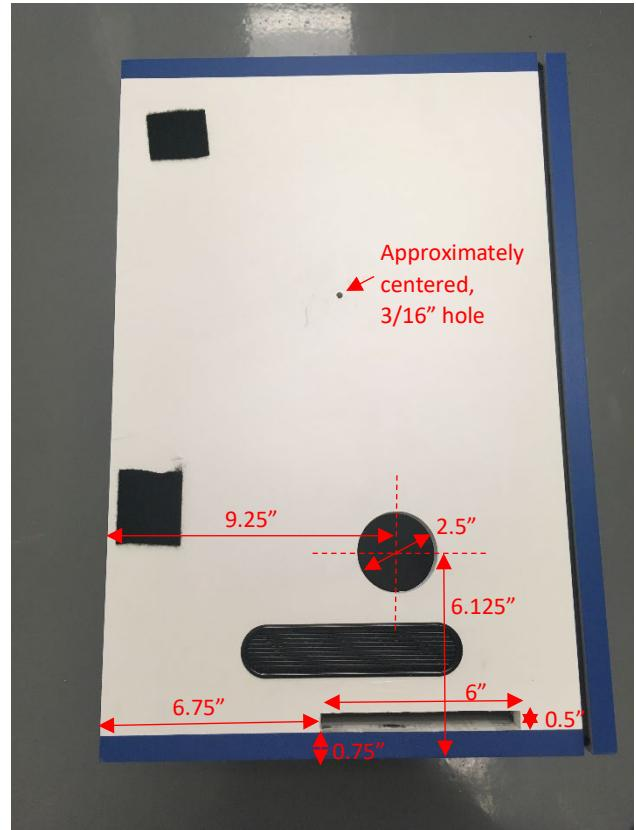

Figure 107 Modifications to the side of the box for the camera, the mounting breadboard, and the foam anchor bolt.
- See Figure 107 for the results of this step.
- See Figure 107 for the results of this step